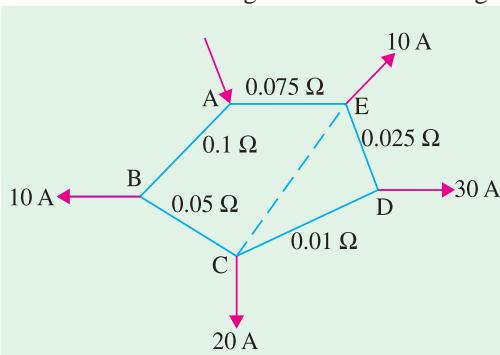

Fig. 40.31
**Solution.** The ring main is shown in Fig. 40.31.
The interconnector between points  $C$  and  $E$  is shown in Fig. 40.31. It may be noted here that the function of the interconnector is to reduce the drop of voltage in various sections. For finding current in the interconnector, first p.d. across its ends is calculated. Then we calculate the resistance, viewed from points  $E$  and  $C$  of the network composed of resistances of the distribution lines only, ignoring the load (Art. 2-22). Then current through the interconnector is given by